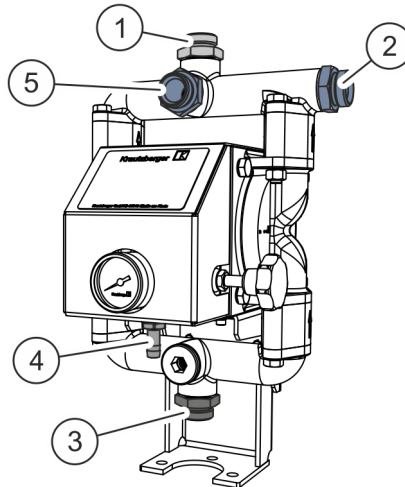

Fig. 6: Disassembly
4.  Disconnect the compressed-air supply from the compressed-air connection point (Fig. 6/4).
5.  Disconnect the material intake hose from the material intake connection (material intake) (Fig. 6/3).
6.  If necessary, disconnect the surge tank from the connection (Fig. 6/1).
7.  Disconnect the material pressure hose at the material pressure connection (material outlet) (Fig. 6/2 or 5).